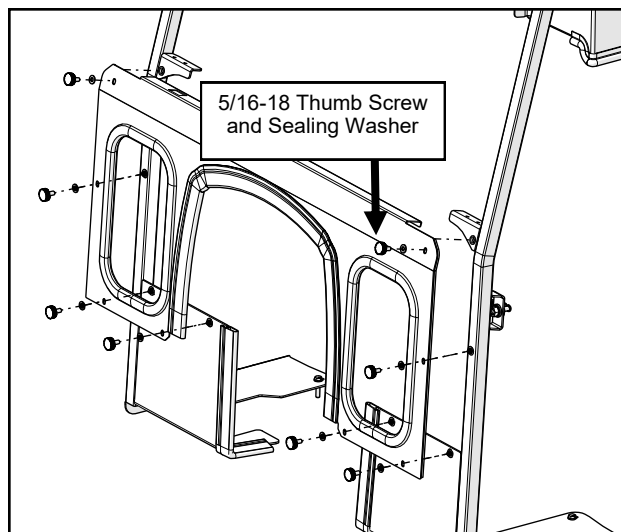

Fig. 6.1 (Install the Cowl)
6.1 Slide the cowl on and loosely secure it to the A-pillars with sealing washers on all the thumb screws. See Figure 6.1. For best water seal, make sure the rubber seal folds BACK in towards the cab along the top, then at the bottom fold the rubber out towards the front.